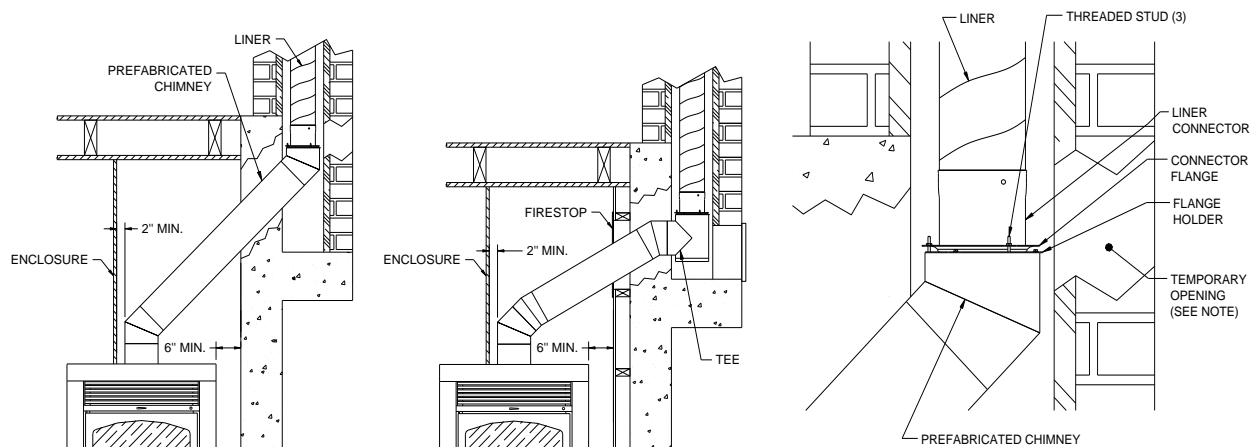

Figure 27 – Connection to a Masonry Chimney
- Elbows can be used to deviate and enter the masonry chimney when possible as shown in Figure 27.